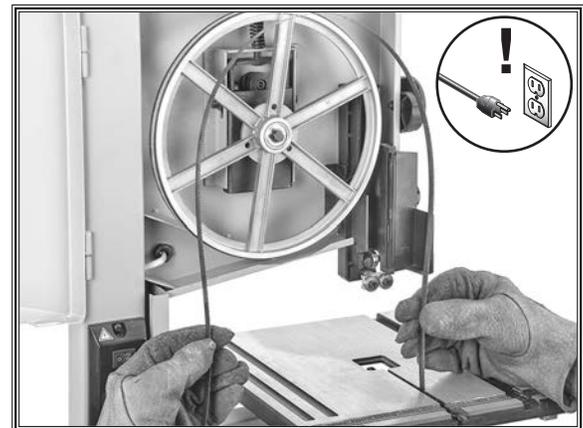

Figure 39. Removing blade.
7. Slip blade off of wheels, slide it through table slot (see **Figure 39**), and remove it from machine.